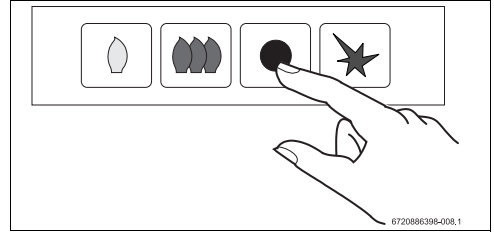

Fig. 26
- ▶ Press OFF button (Fig. 26).